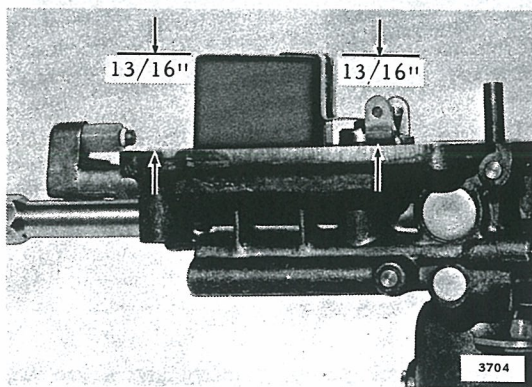
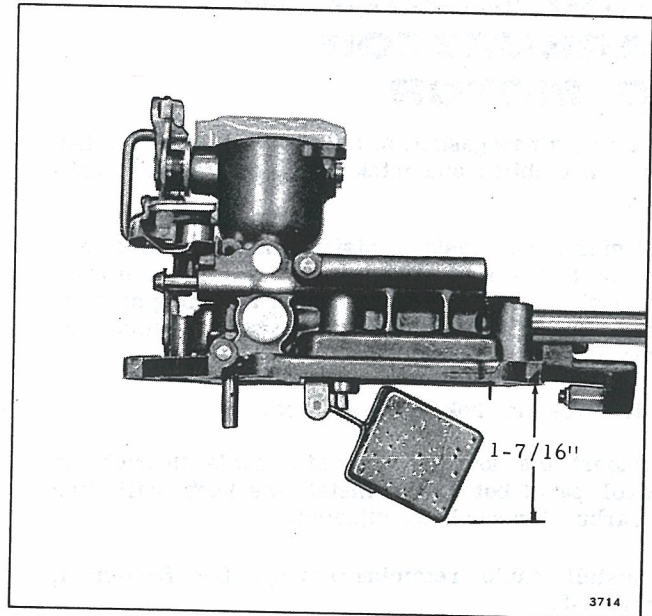

Figure 3-15. Correct Float Position - Closed
Figure 3-16. Correct Float Position - Open
d. To check position of float, turn carburetor body upside down, so that weight of the float closes float needle. With float arm straight, float should be parallel with face of casting and approximately 13/16" from casting. See Figure 3-15. Hold carburetor body in upright position. Float should drop 1-7/16" plus or minus 1/16" from the carburetor body. See Figure 3-16.